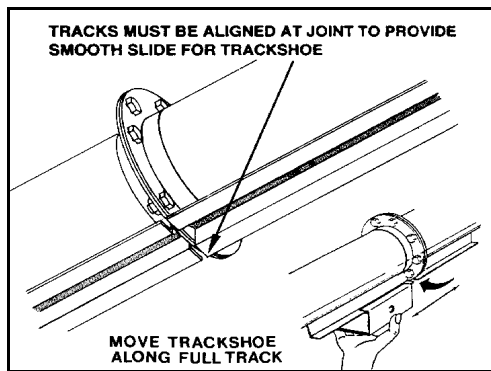

Figure 3.2 51' Lift Track Only
- ➔ The 51' auger has a 2-piece lift track. Make sure the upper and lower tube track sections butt together to form a smooth joint for the roller track shoe to roll across. Adjust if necessary (Figure 3.2).